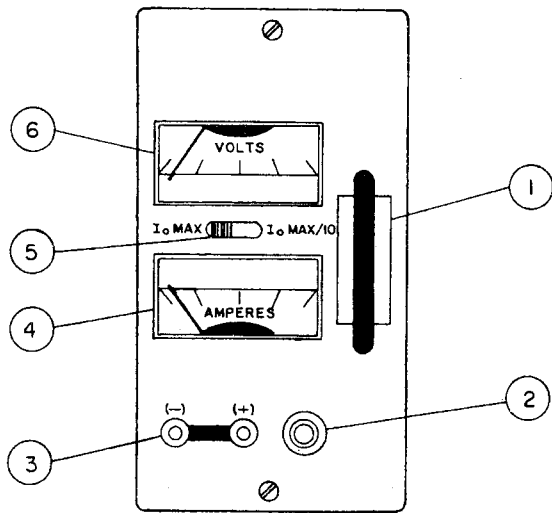

FIG. 2-3 TERMINATIONS AND CONTROLS, FRONT PANEL.
- a) FRONT PANEL: Refer to FIG. 2-3 and TABLE 2-2.
NOTE: 3) REFER TO SECTION II (FIG. 2-3) FOR THE LOCATION OF ALL OPERATING CONTROLS.